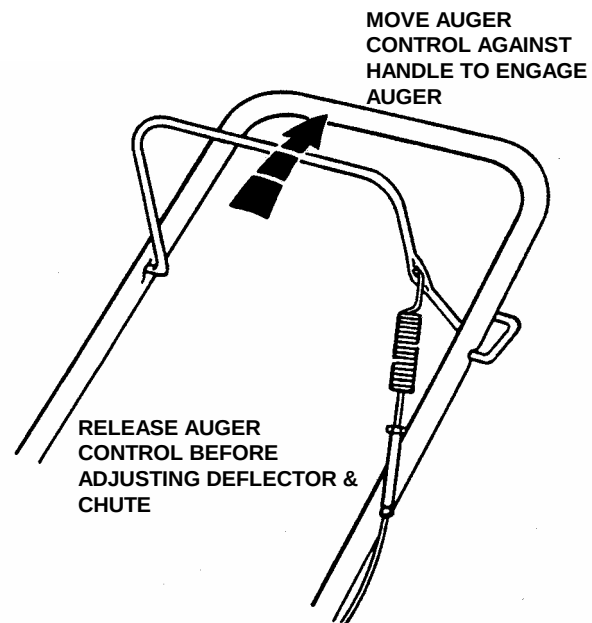

FIGURE 3.5
1. Pull auger control against handle to engage auger. See Figure 3.5.